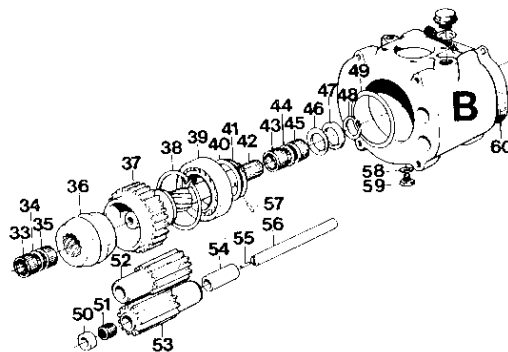

Fig. 5
7. Remove the four bolts (2) securing the intermediate housing to the front housing.
8. Slacken the screw (10) 2 to 3 turns.
9. Turn the reverse gear and place it on the front housing flange. Release the circlip (41) and remove the washer (40) on the MS, or the washers 46 and 47, Fig. 5, on the MSB: Pull the guide pin (42) out of the shaft (36) with a pair of pliers.
10. Carefully tap on the intermediate housing with a rubber mallet so that it releases from the front housing. Then carefully lift the intermediate housing straight upwards. Make sure that the shafts (51) do not fall out of the intermediate housing. Hold the shafts in position with a piece of tape across their ends. Take care of the needle bearings (37 and 39) as well as the spacer washer (38).
11. Lift off the engaging muff (31) from the shaft.
1. Remove the pieces of tape over the ends of the shafts (56), and press out the planetary gears (52 and 53), see Fig. 5. Remove the bearings (51) and the spacer sleeves (54).
2. Inspect all the bearings, bushings and gear wheels in the intermediate housing. Check to make sure that the friction lining on the gear wheel (37) is not damaged. No friction linings are stocked separately so that the gear wheel must be replaced together with the lining. If the gear wheels (37, 52 and 53) or the bearing (39) have to be replaced, carry out work operations 4–8 below. Since the bearing (39) is always exposed to lop-sided loading during disassembling, it must be scrapped and replaced by a new one.
3. Re-fit in position the shafts (56) of the planetary gears, the spacer sleeves (54), the bearing (51) and the bushings (50).
4. Remove the circlip (41). NOTE! Take care of the shim (40).
5. Press out the gear wheel (37) with the help of drift 884263. Make sure that the teeth on the gear wheel fall into the teeth opening in the planetary gears.
6. Remove the circlip (38).
7. Tap out the bearing (39) with drift 884168. (NOTE! Take care of the shim 49.)